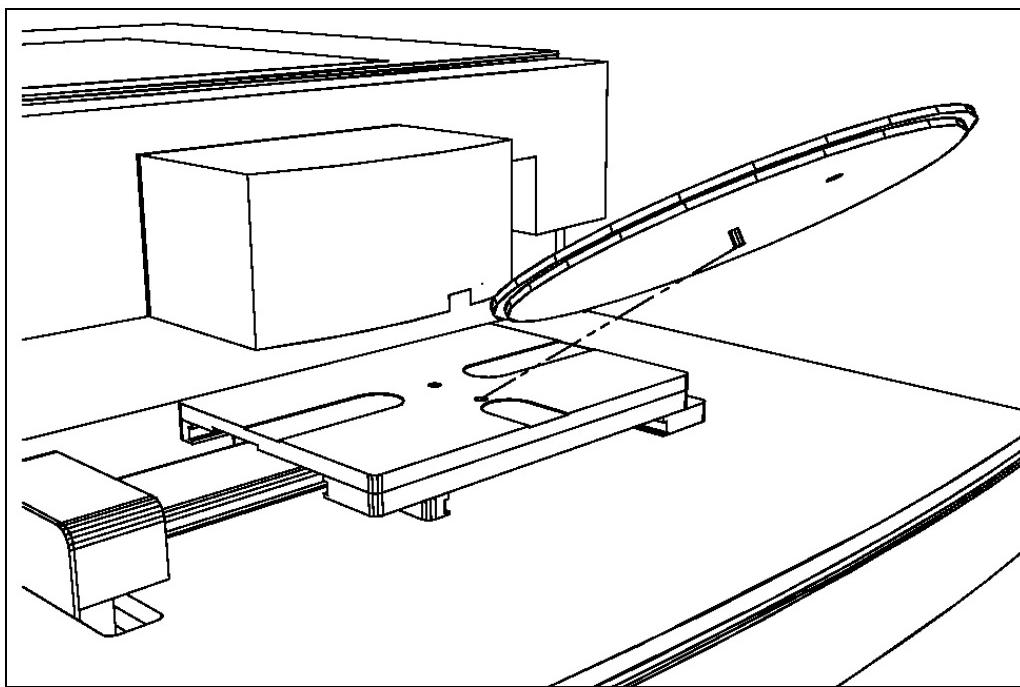

Figure 2.3. Installing the Rotary Stage Table
- Place the spindle on the underside of the rotary stage table, into the front bushing in the middle of the stage, as shown in Figure 2.3.